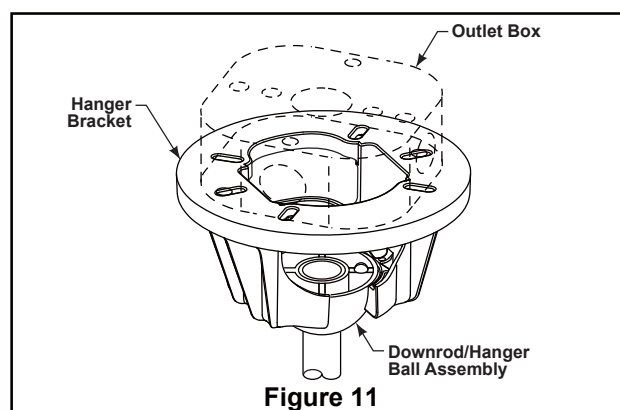

Figure 11
- ☐ 2. Carefully lift the fan and seat the downrod/hanger ball assembly on the hanger bracket that was just attached to the outlet box. Be sure the groove in the ball is lined up with tab on the hanger bracket. (Figure 11)